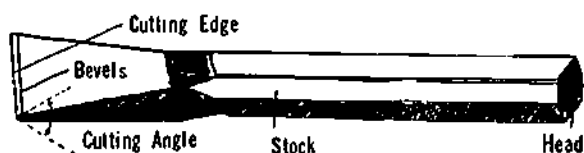

Figure 2-23. Flat Cold Chisel
**Flat Cold Chisel** The flat cold chisel (Figure 2-23) is used to chip material from a flat surface to make a part smaller, shear sheet metal, cut off small rods and wire, split nuts and remove burning slag and weld spatter.